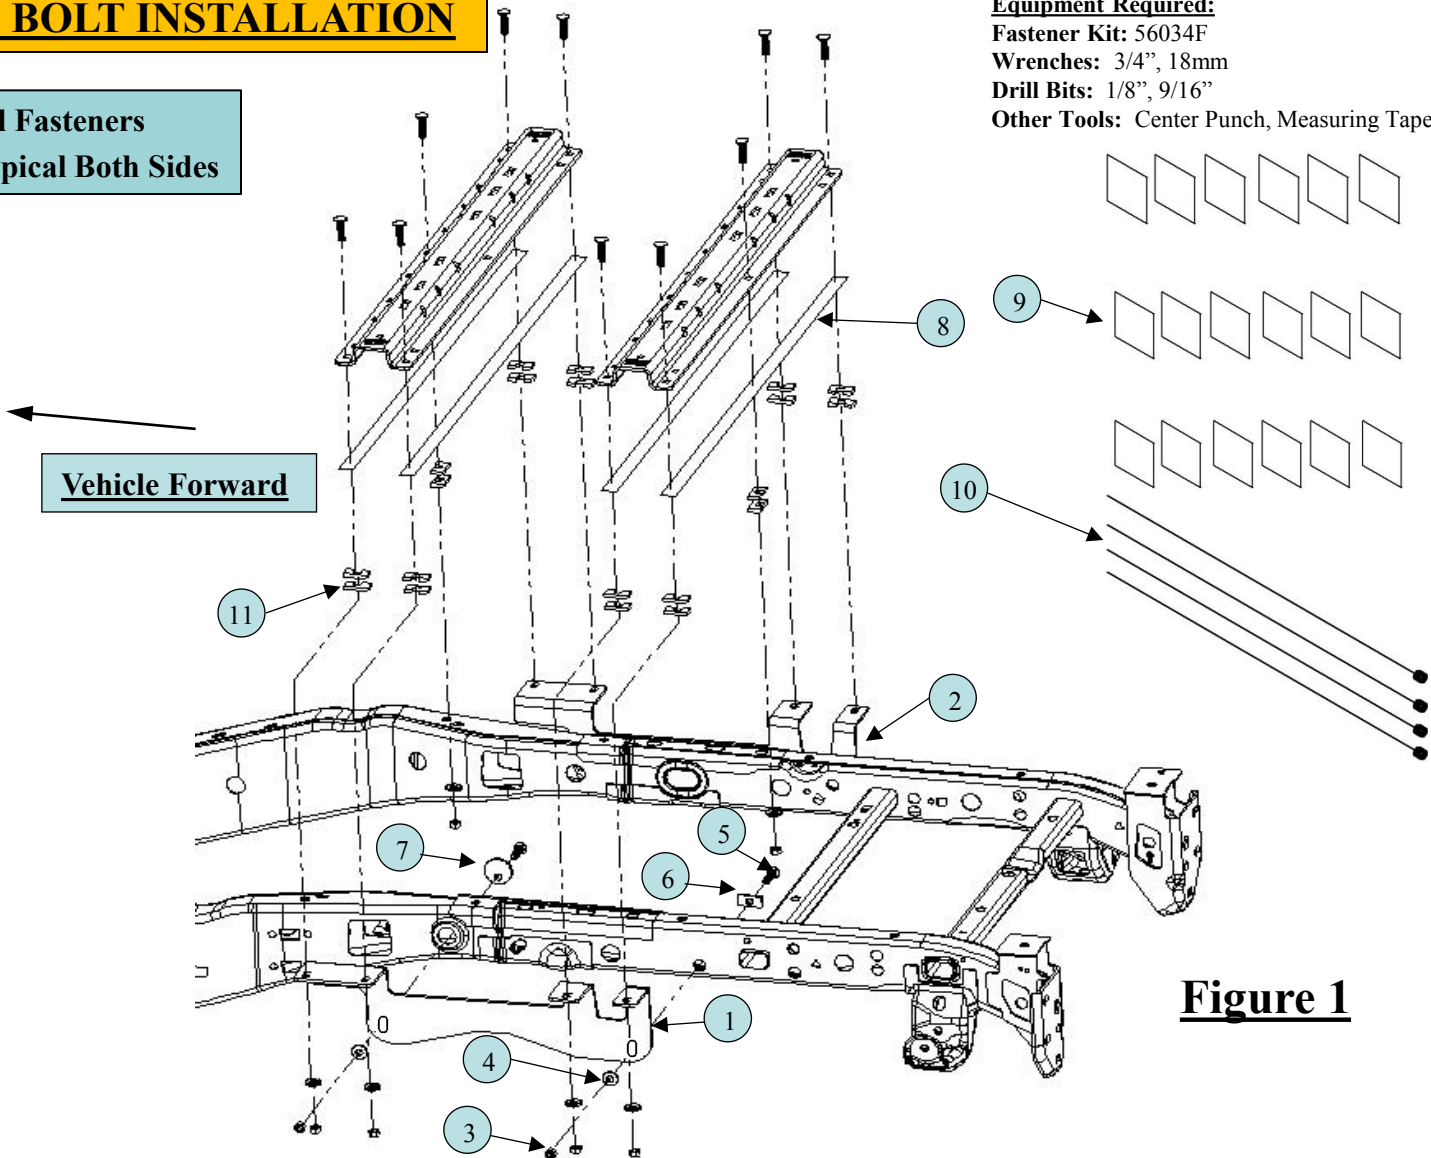

Figure 1
2. Place the galvanic isolator strips (8) on the bottom surface of rail to protect aluminum truck bed as shown in Figure 1.
5. Loosely install the frame brackets (1) & (2) using the appropriate hardware and hand tighten. (See Figure 1)
- Starting with the rear mounting hole first, insert the coiled end of the pull wire (10) through the 1" diameter mounting hole on the side of the truck frame and out through the 1-1/2" diameter access hole on the inside of the frame.
- Slide the block (6) over the coiled end of the pull wire and attach the 1/2" x 1.75" carriage bolt (5).
- With the other end of the pull wire (10), thread it through the back side of the frame bracket (1) & (2) and gently pull on the end of the pull wire (10) so that the hardware moves through the frame and into position in the frame bracket.
- Install the 1/2" conical washer (4) and 1/2" nut (3) and hand tighten.
- For the forward mounting hole, insert the coiled end of the pull wire (10) through the 1-1/2" diameter mounting hole on the side of the truck frame and out through the large oval access hole on the inside of the frame.
- Slide the circle block (7) over the coiled end of the bolt leader and attach the 1/2" x 1.75" carriage bolt(5).
Note: It is important that the square hole in the circle block(7) sits at the bottom of the mounting hole on the frame as shown in Figure 1. The circle block (7) should fit inside embossment in truck frame.
6. Check that the 1/8" drilled holes from step 4 align with the slots of the frame bracket (1) & (2).